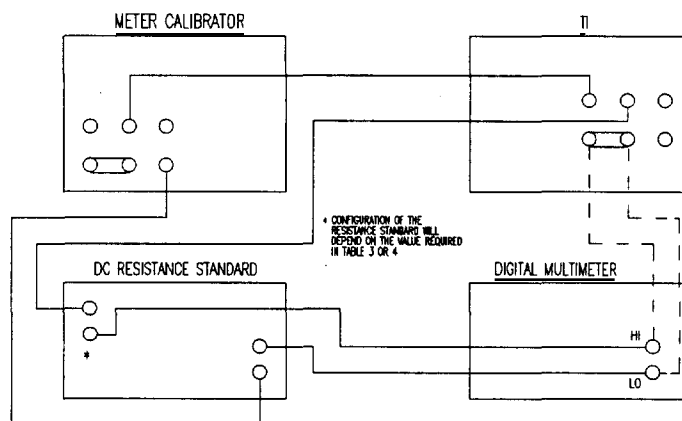

Figure 5.
4.3.1 Connect the equipment as shown in Figure 5.
4.3.9 Move the Digital Voltmeter leads from the Resistance Standard to the TI HI and LO terminals (dashed lines in Figure 5).
4.3.14 Reconnect the equipment as shown in Figure 5 using the next Resistance Standard listed in Table 3.
4.3.17 2W Resistance: In Figure 5 move the leads from the TI I+ and I- connections to the TI HI and LO terminals respectively.
4.3.21 Disconnect the equipment shown in Figure 5.